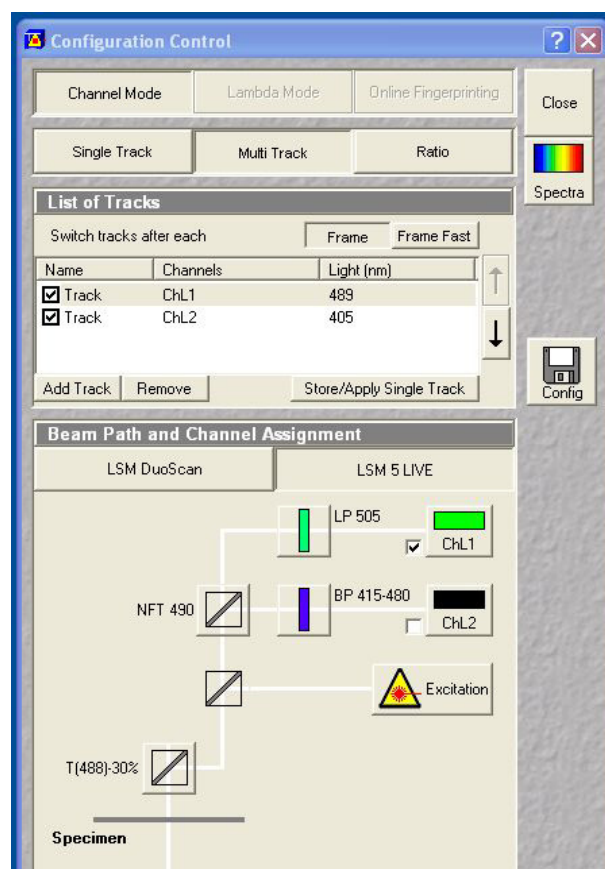

Fig. 14 Configuration Control window for Multi Track
- Select **Channel Mode** if necessary (Fig. 14).
- Click on the **Multi Track** button in the **Configuration Control** window (Fig. 14).
The following functions are available in the **List of Tracks** panel (Fig. 14).